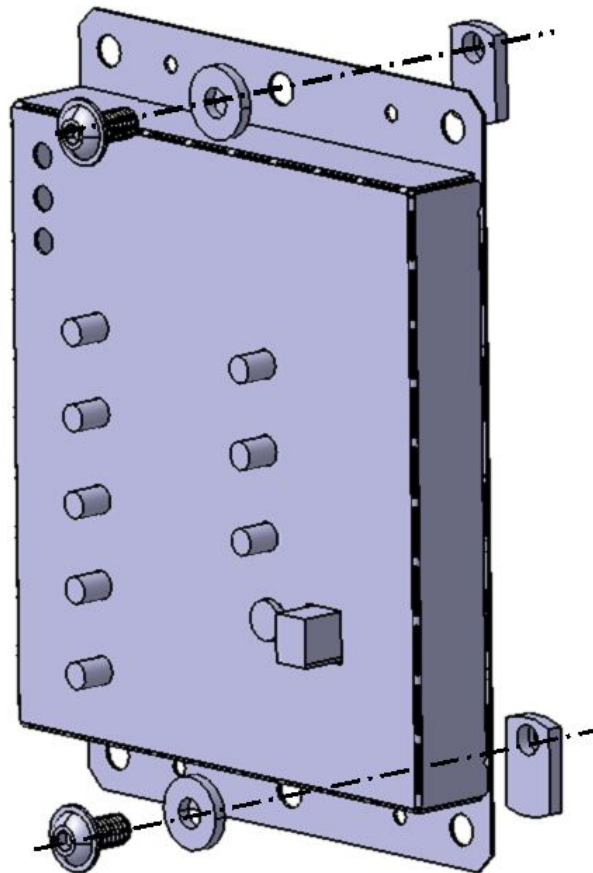

Figure 4.36: End fasteners with spacers on main board
- ❑ Put the screw the spacer and the nut through the hole in the main board like the Fig. 4.36. Don't tighten yet to allow the main board to slide on the groove.